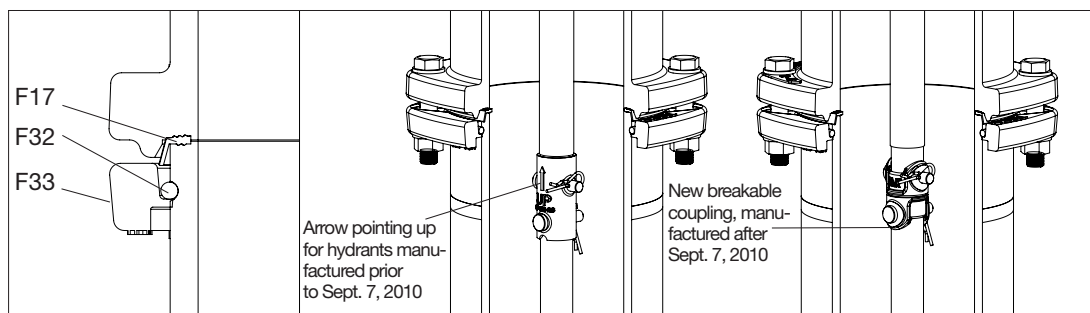

Fig. 9
**NOTE:** For hydrants manufactured prior to Sept. 7, 2010, the breakable stem rod coupling should be replaced with the arrow pointing up. For hydrants manufactured after Sept. 7, 2010, there is no orientation (see fig. 9).